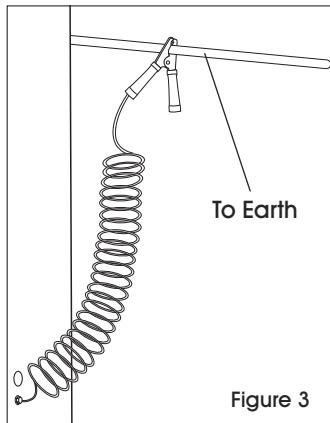

Figure 3
3. Attach the other end of the ground wire to a ground bus or ground rod. Ground cabinet to earth. (See Figure 3) Refer to NFPA 77 for further information.